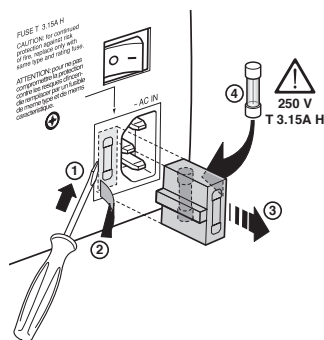

Fig. 4
- Only replace the safety fuse (on the power socket at the rear of projector) with a fuse identical in type and characteristics (T 3.15A H) (**Fig. 4**).